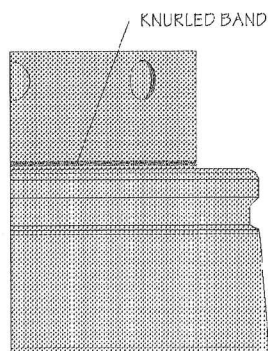

Figure 17. A knurled band is visible when the Running Tool is properly made up to the Casing Hanger.
9. Verify the Running Tool is fully made up by observing the knurled indicator band. The band is $\pm 1/4$ " from the top of the Casing Hanger when the Running Tool is fully made up to the Casing Hanger. Refer to **Figure 17**.